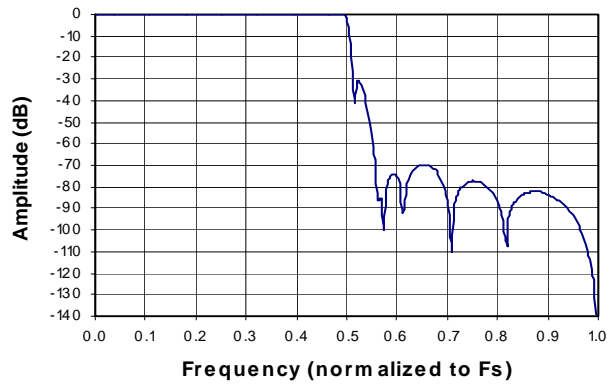

Figure 1. Single-Speed Stopband Rejection
7. Response is clock dependent and will scale with Fs. Note that the response plots (Figures 1 to 9) are normalized to Fs and can be de-normalized by multiplying the X-axis scale by Fs.